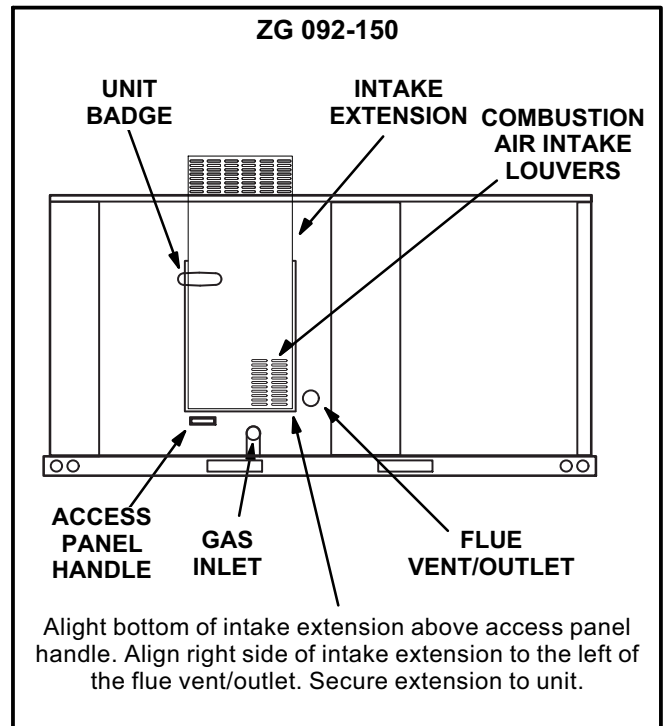

FIGURE 8
- 1- Remove the unit badge, plug the existing holes and drill new holes to secure badge. See figure 8.
- 2- Position the extension over combustion air intake louvers as shown in figure 8.